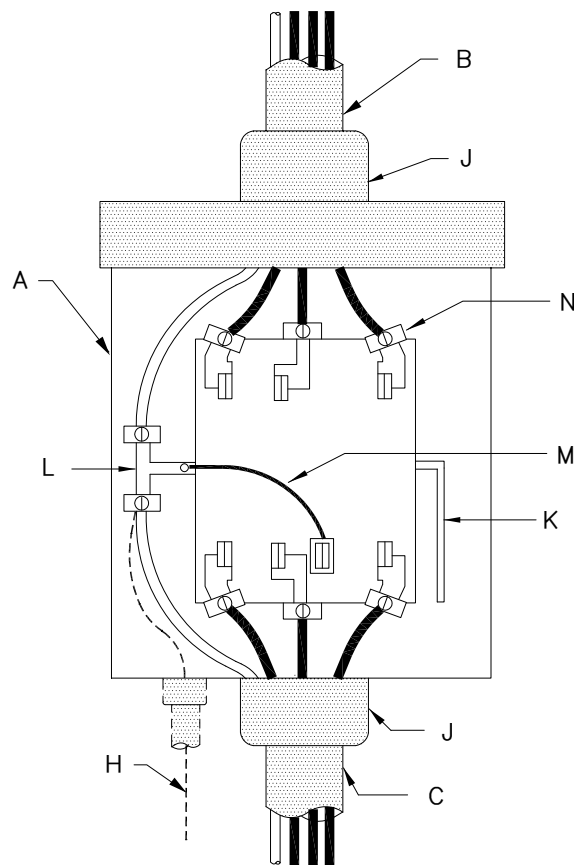

FIGURE 2
2. FOR THE INSTALLATION OF A 3-PHASE, 4-WIRE DELTA 120/240V OR 3-PHASE, 4-WIRE WYE 120/208V OR 277/480V OVERHEAD SERVICE METER, CUSTOMER TO FURNISH, INSTALL AND MAINTAIN THE FOLLOWING EQUIPMENT (SEE FIGURE 2):